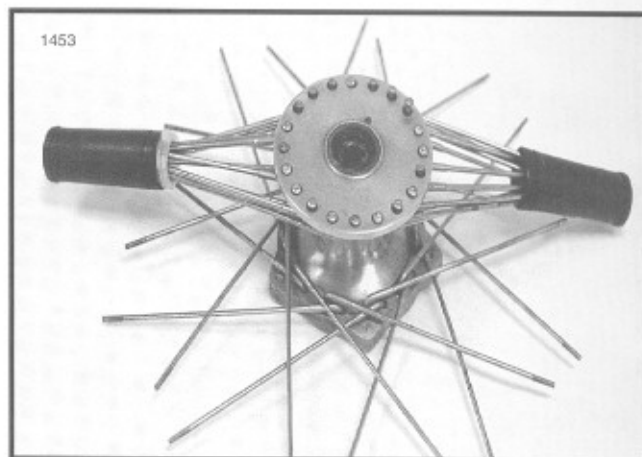

Figure 2-25. Bundling Top Spokes
5. See Figure 2-25. With all forty spokes inserted in hub, group all spokes on top flange into two bundles. Secure each group with throttle grips or tape to keep the spokes together.